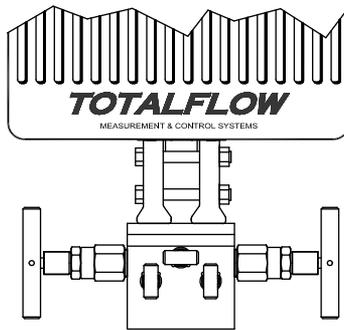

Figure 3. Typical Manifold Mount
- 1D** Mount the manifold to the bottom of the unit. The right port of the unit is normally high pressure (upstream side). Check the XIMV model number to verify that it is designed for flow from left to right (4 CYC) or right to left (4 AYC). The user can look on the transducer for (H or +) for high side and (L or -) for low side. For direct mount manifolds, the direction is very important. See Figure 3 for a typical manifold configuration.